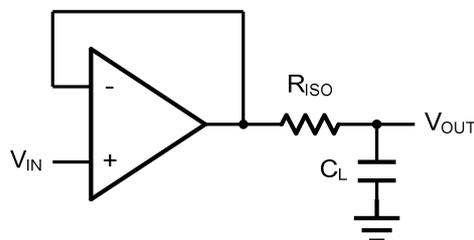
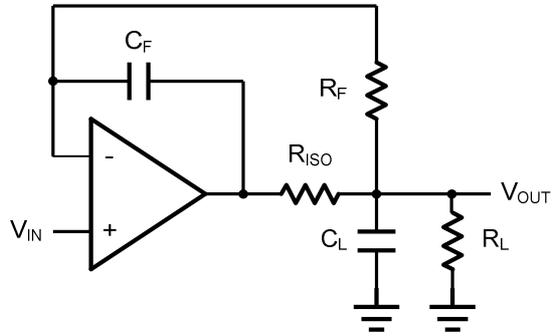

Figure 2. Indirectly Driving a Capacitive Load Using Isolation Resistor
Figure 3. Indirectly Driving a Capacitive Load with DC Accuracy
The HGAx335 family is optimized for bandwidth and speed, not for driving capacitive loads. Output capacitance will create a pole in the amplifier's feedback path, leading to excessive peaking and potential oscillation. If dealing with load capacitance is a requirement of the application, the two strategies to consider are (1) using a small resistor in series with the amplifier's output and the load capacitance and (2) reducing the bandwidth of the amplifier's feedback loop by increasing the overall noise gain. Figure 2. shows a unity gain follower using the series resistor strategy. The resistor isolates the output from the capacitance and, more importantly, creates a zero in the feedback path that compensates for the pole created by the output capacitance.
The circuit in Figure 3 is an improvement to the one in Figure 2.  $R_F$  provides the DC accuracy by feed-forward the  $V_{IN}$  to  $R_L$ .  $C_F$